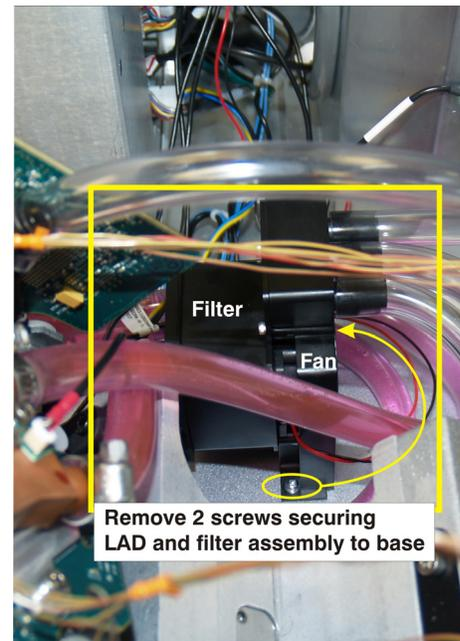

FIGURE 1-24 REMOVE LAD ASSEMBLY
2. Remove 2, #2 Phillips screws securing the LAD assembly to the base. (Figure 1-24)